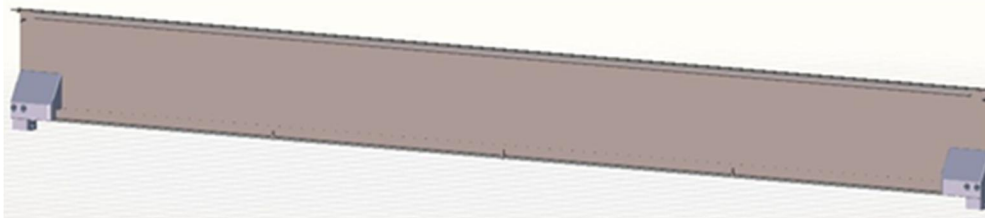

Figure 10
8. The rear spreader can now be lifted up and out of position. Figure 10.